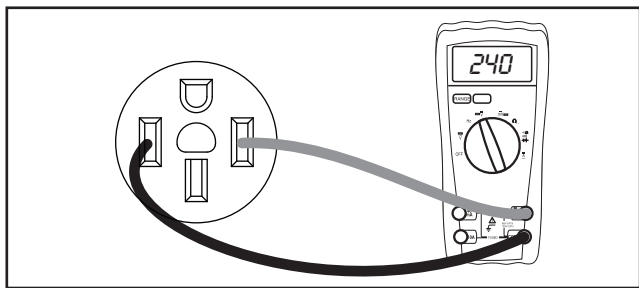

Figure 1. VOM Test Leads Connected to a 240 VAC receptacle
6. Place the meter test leads into an outlet. See Figure 1.